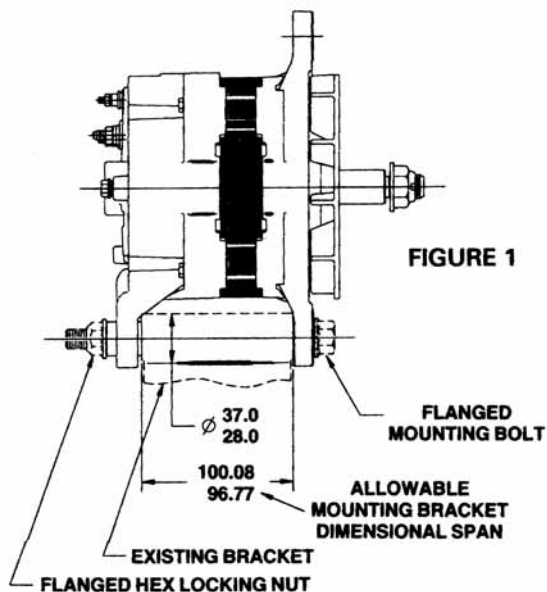

FIGURE 1
2. The bracket span (portion that attaches to the alternator) should be per Figure 1, below.